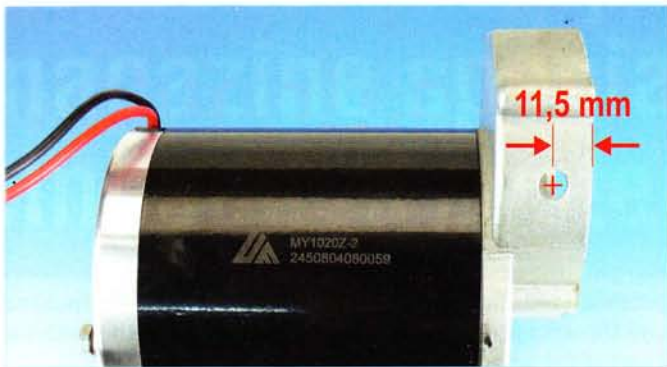

Figure 10. The motor before...
11.5 mm (0.45 inch) away from the edge of the casing (Figure 9 and Figure 10). Use a centre punch to mark the point; it will prevent the drill from wandering. Before drilling it will be necessary to clean the grease away from the area where the hole will be drilled. Lay some paper kitchen towels or clean rags on the bench to catch any swarf. Debris which does find its way into the casing can be removed with a pair of tweezers (the more meticulous types out there will no doubt remove all the grease, flush out the housing after drilling and re-pack with grease).